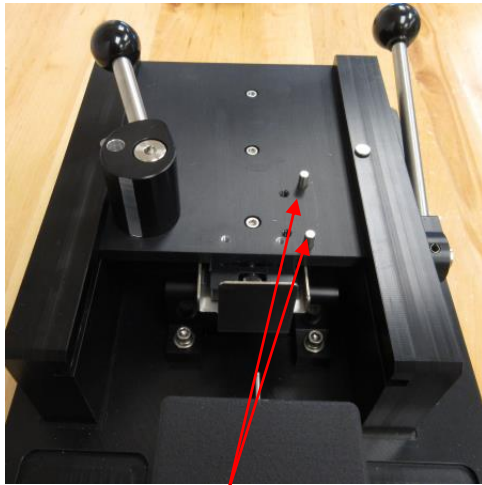
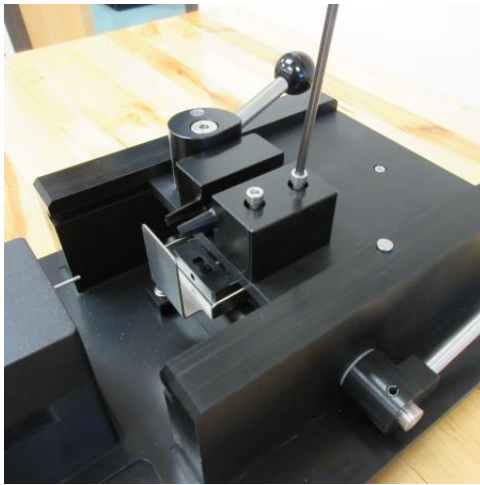

Figure 3
Figure 4
- Slightly squeeze jaws together and place on the 2 dowel pins extending from thrust plate. (Figure 3) Attach jaws using 2 10-24 x 1-3/8" socket head cap screws. (Figure 4)